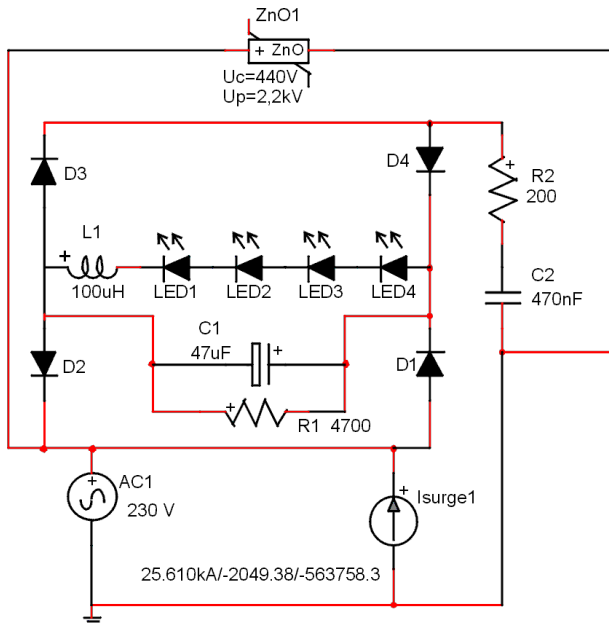

Fig. 3. Common LED indicator diagram with lightning and switching overvoltage protection.
They are supply directly from AC electric network. It isn't protected against overvoltage from supply line. During normal exploitation there isn't any problem with indicator. Presented unit was installed in high voltage lab. During first cycle of normal surge generator work LED indicator was damaged. The lightning overvoltages were produced by the high-voltage surge generator (SG) – type UCS 500M6B. The SG covers transient and power fail requirement according to international standards with voltage capability of up to 1,2/50 $\mu$ s 6,6kV. Two different configurations were examined. First investigation shows that diode D1 and D2 was shorted. In this case LED lamp it self wasn't damaged. To prevent future dysfunction fee elements were added: metal oxide varistor (ZnO1) and L1 – fig. 3.